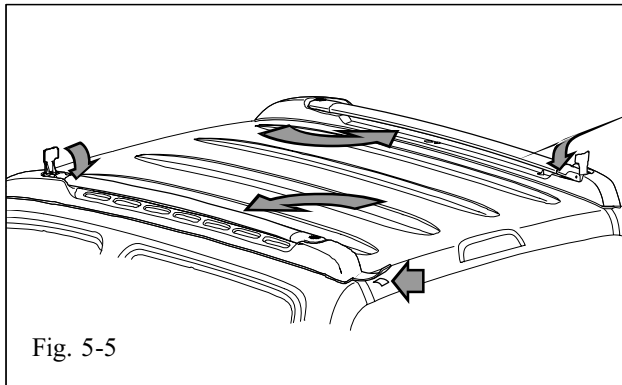

Fig. 5-5
- (i) Align the stub on the rear of the pad with the roof ditch, once aligned, remove tape backing and press down firmly. Tuck the stub under the rear window lace. (Fig. 5-5)
- (j) Reposition crossbars into base rails and close levers as shown. (Fig. 5-5)